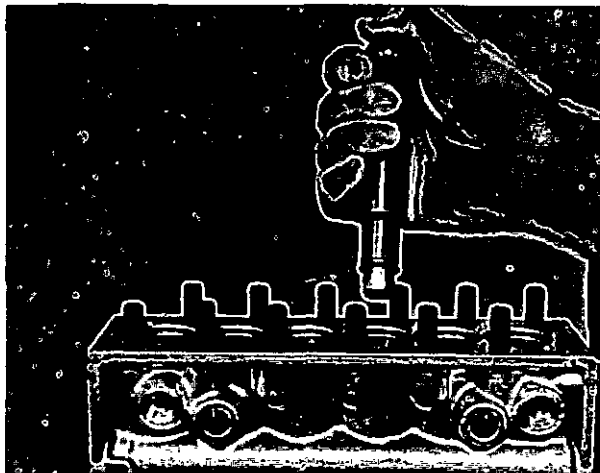

Fig. 25 Fitting rubber 'O' ring.
3. Using tool 1 688 110 028, fit a rubber 'O' ring, see **Note** in 2 (b), to each bore (fig. 25). Depress tool plunger, fit a greased ring, enter tool fully into bore and release plunger.